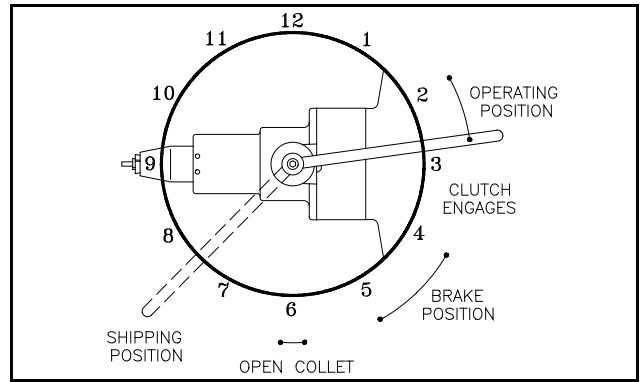

Figure 7. Handle position
- 5.2 Confirm that the Quick Chuck handle is in the shipping position. See Figure 7. Temporarily fasten the Quick Chuck to the adapter with two installation screws.